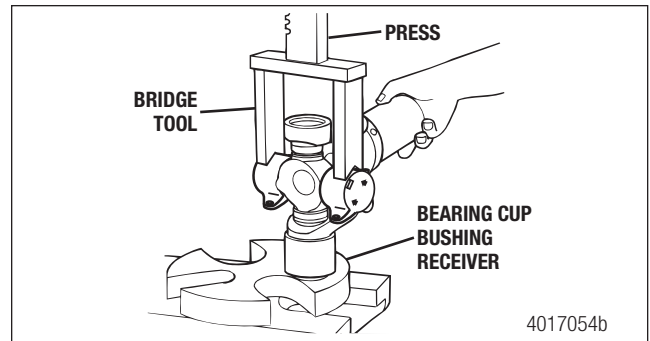
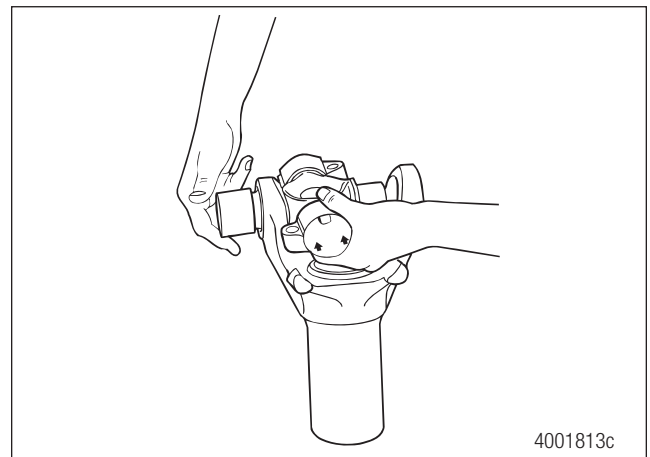

Figure 5.30
Figure 5.31
1. Use a press, bridge tool and bearing cup bushing receiver. Figure 5.30. Refer to the Service Notes page on the front inside cover of this manual for information to obtain these tools.
2. Press DOWN until the first round bushing loosens. Figure 5.30. Remove the round bushing. Figure 5.31.